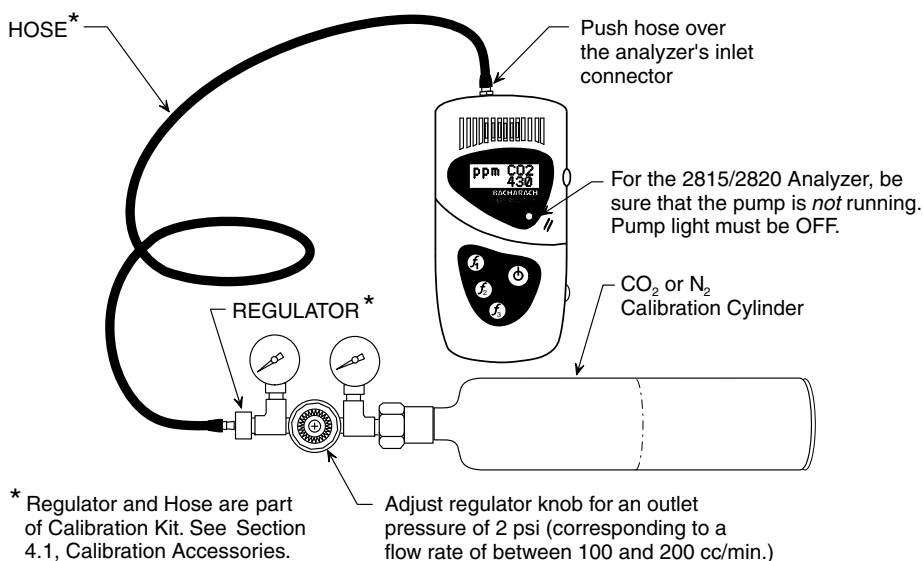

Figure 3. Calibration Equipment
- Using the Calibration Accessories listed in Section 4.1, attach a CO2 calibration gas cylinder to the inlet of the analyzer as shown in Figure 3. The applied CO2 concentration must equal the gas value displayed in the *top* line of the Gas Calibration screen.
3. Using the calibration accessories listed in Section 4.1, attach a 100% N2 gas cylinder to the inlet of the analyzer as shown in Figure 3. Then adjust the regulator attached to the gas cylinder for an outlet pressure of 2 psi (equivalent to a flow rate of approximately 120 cc/minute). If N2 is unavailable, turn ON the analyzer's pump and allow it to draw in fresh air for at least 30 seconds before proceeding.
4. Remove the 100% N2 cylinder (if used); then attach a CO2 calibration gas cylinder to the inlet of the analyzer as shown in Figure 3. The applied CO2 concentration must equal the gas value displayed in the *top* line of the Gas Calibration screen.